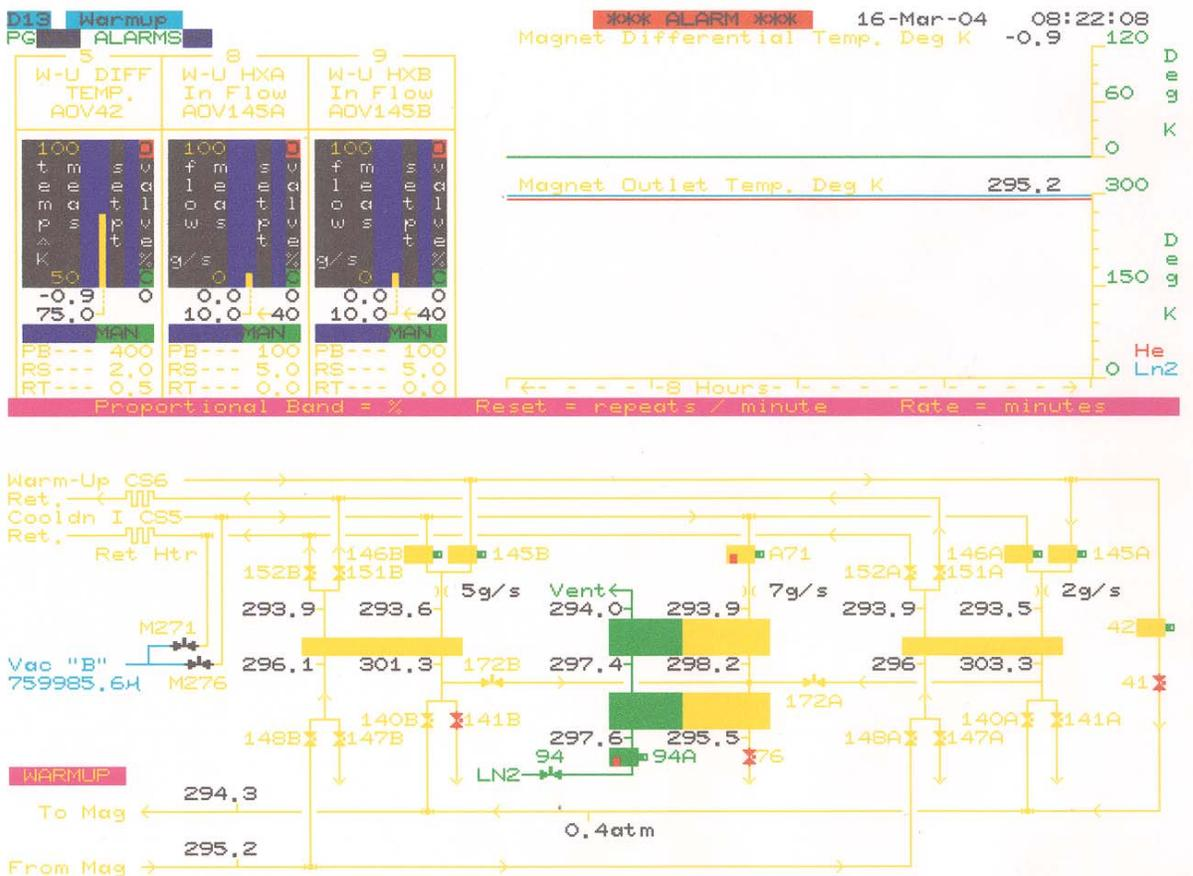

Figure 1. Display of control page D13 for Warmup
- 5.6 Operation of Warmup is computer controlled. Process condition and the controller can be seen from the computer screen, Figure 1. In Figure 1, the heat exchangers and by-pass mixing flow are shown. Temperatures to and from the magnet are given in the lower left corner. The controllers, for flow split between heat exchanger and by-pass line, are located in the upper left. Trends for differential across the magnet and magnet outlet temperature are given in the upper right.